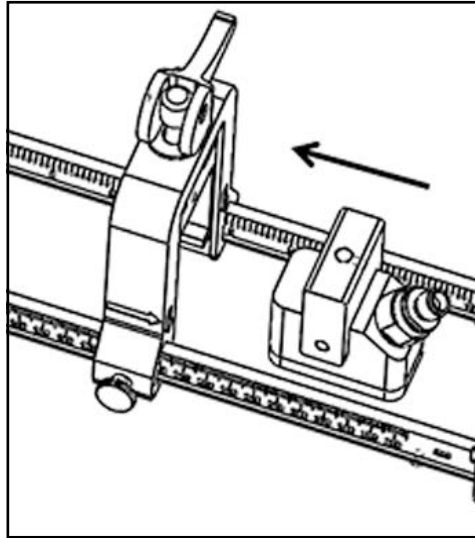

Figure 21: Inserting the Transducer
- Slide a transducer, which is already locked into its transducer holder, into one of the clamp-on fixture's clamp holders until the plunger from the top of the transducer holder snaps into its position on the bottom of the clamp holder (see *Figure 21* below).